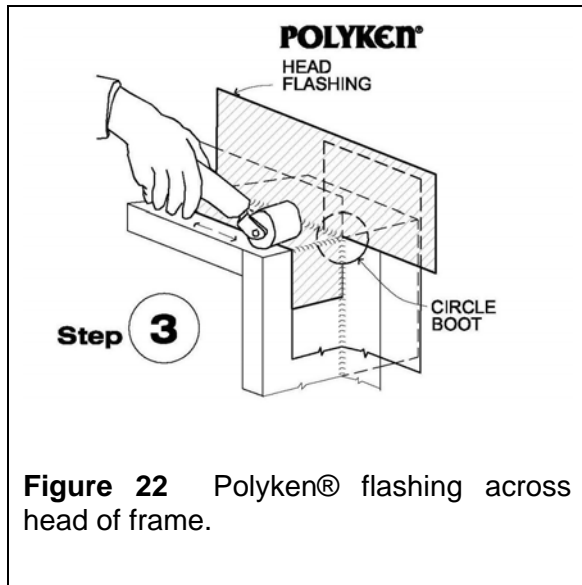

Figure 22 Polyken® flashing across head of frame.
Step 3. Apply Polyken® or Nashua® flashing across the head of the frame and roll all head flashing. See Figure 22.